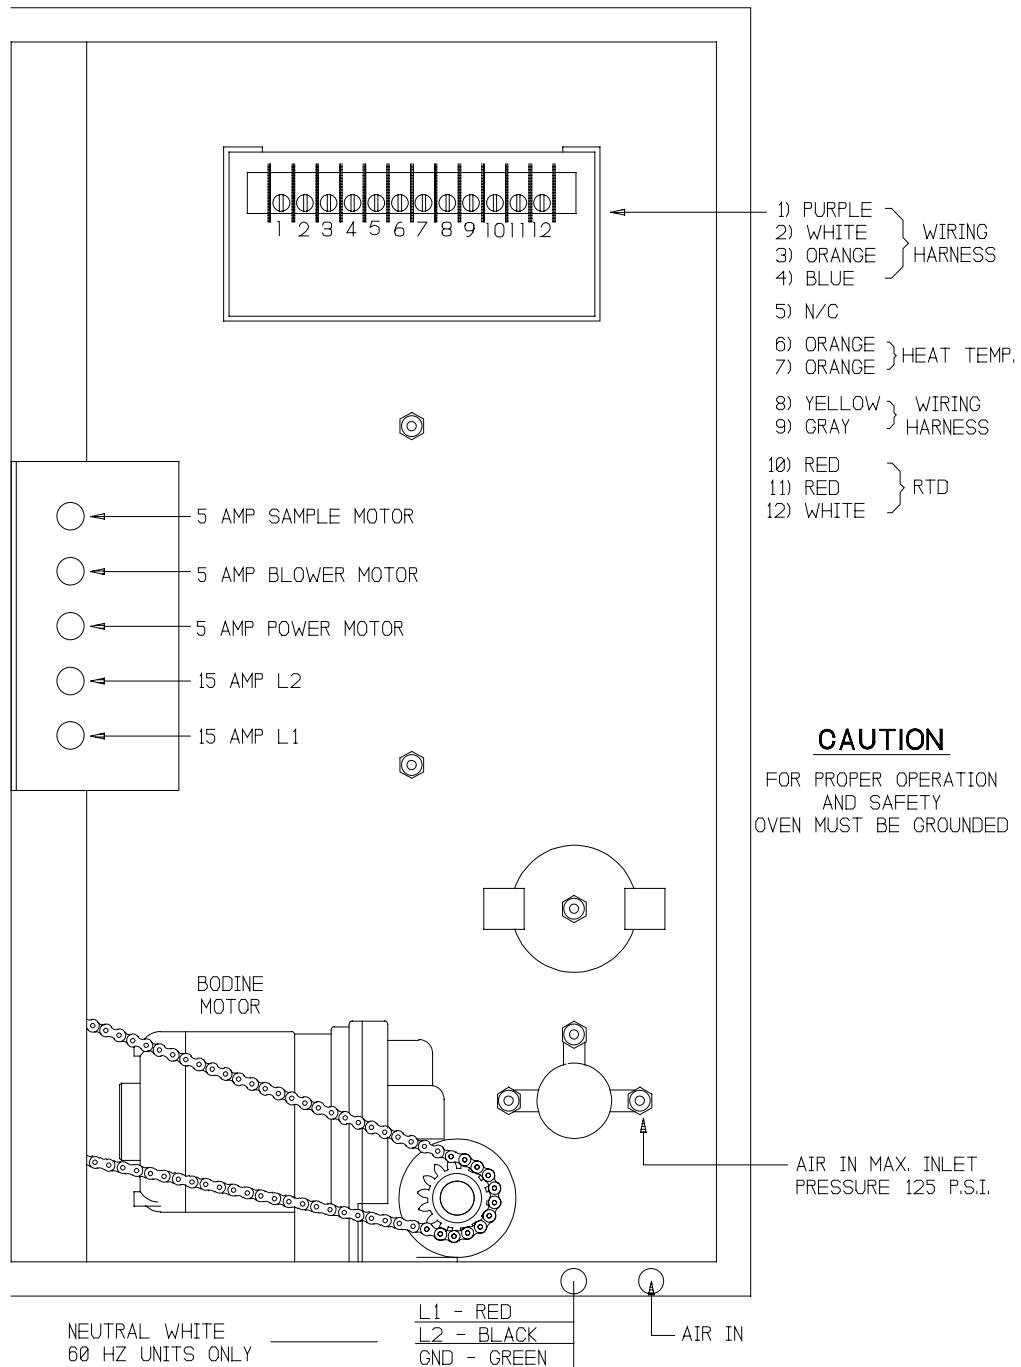

Fig. 2
8.	Control Panel Layout-Back Fig.2